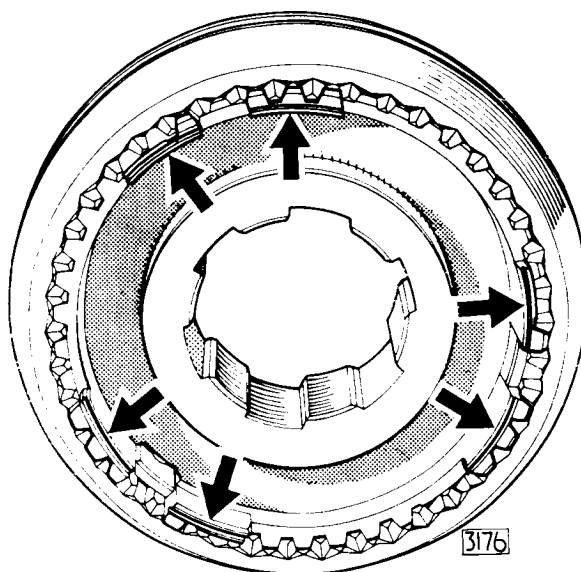

Fig. 7. Identification grooves—3rd/Top, synchro assembly.
**Note:** Although the 3rd/Top and 1st/2nd synchro hubs are similar in appearance they are not identical and to distinguish them a groove is machined on the edge of the 3rd/Top synchro hub (see Fig. 7).